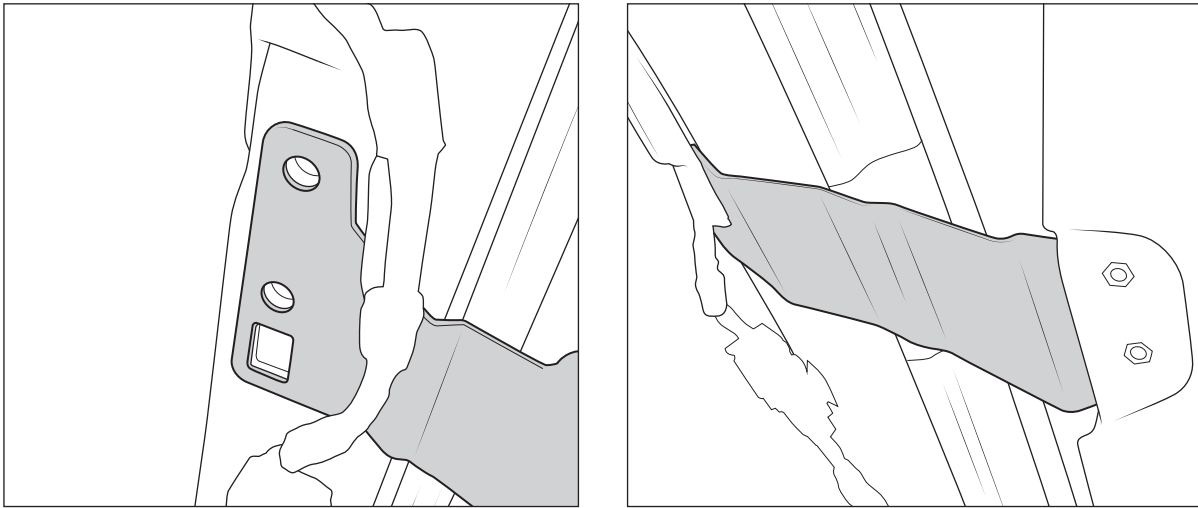

Figure 21
8. Hold bracket in position so square cutout and mounting holes line up with matching holes in A pillar (fig. 21). Reinstall trim panel/grab handle and hold in position while reinstalling bolts. Tighten bolts to 100 in-lb.